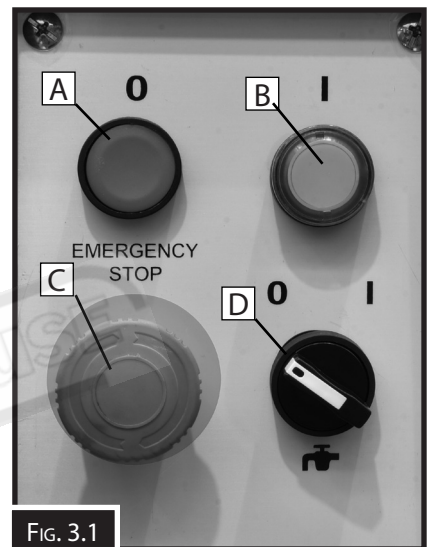

FIG. 3.1
- A. **Stop Button:** When pressed stops the supply of power to the machine. (Fig. 3.1)
- C. **Emergency Stop Button:** Cuts power to motor and remains depressed until reset. Twist clockwise to reset. (Fig. 3.1)
- D. **Coolant Pump Switch:** Switches ON and OFF the power supply to the coolant pump. (Fig. 3.1)
5. Press the power switch to "1" (ON) position (B in Fig. 3.1).
6. Rotate Emergency Stop button (C in Fig. 3.1) clockwise to reset